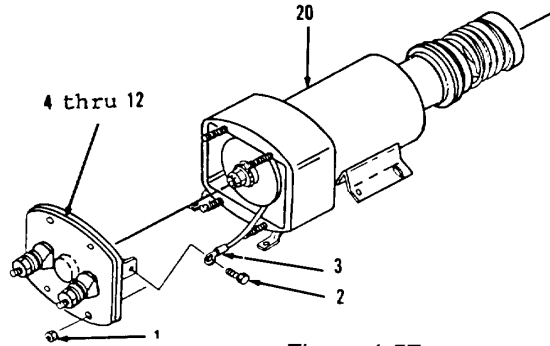

Figure 4-57.
1. Remove four nuts (1, Figure 4-57).
2. Carefully pull items 4 thru 12 as an assembly outward for access to screw (2).
3. Remove screw (2).